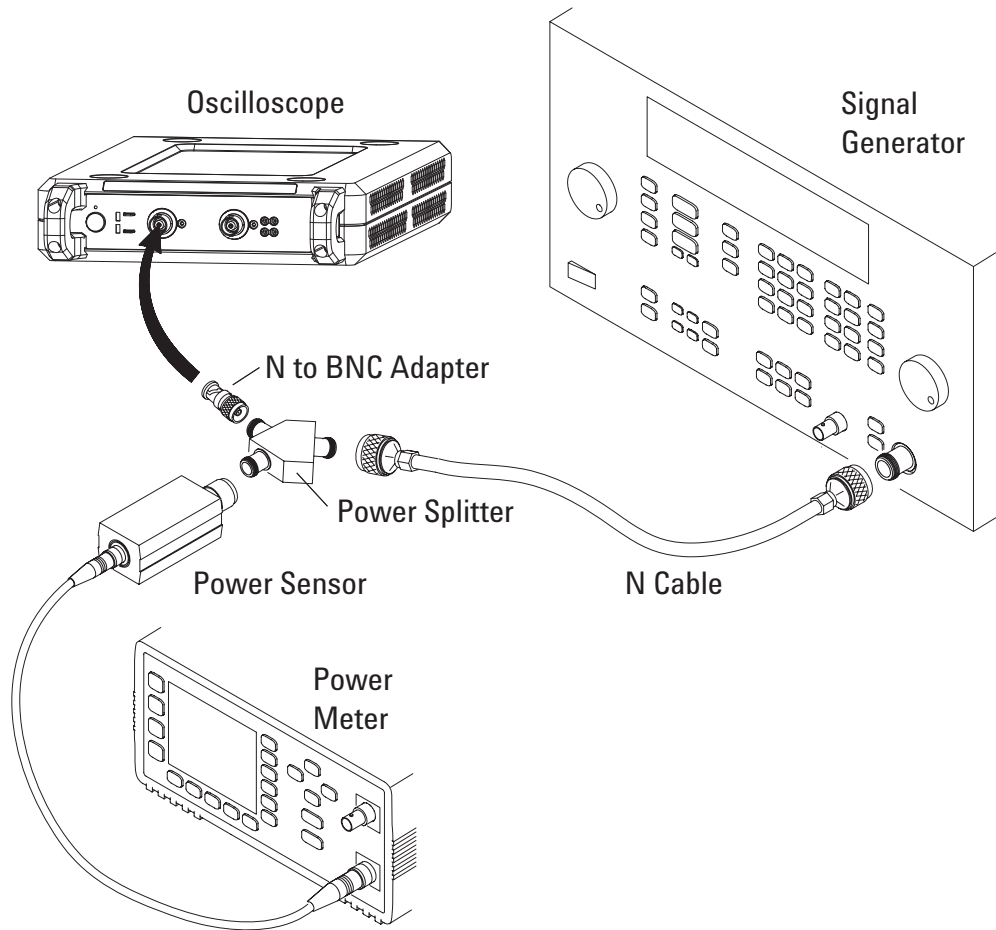

Figure 5 Setting Up Equipment for Bandwidth (-3 dB) Verification Test
- 1 Connect the equipment (see **Figure 5**).